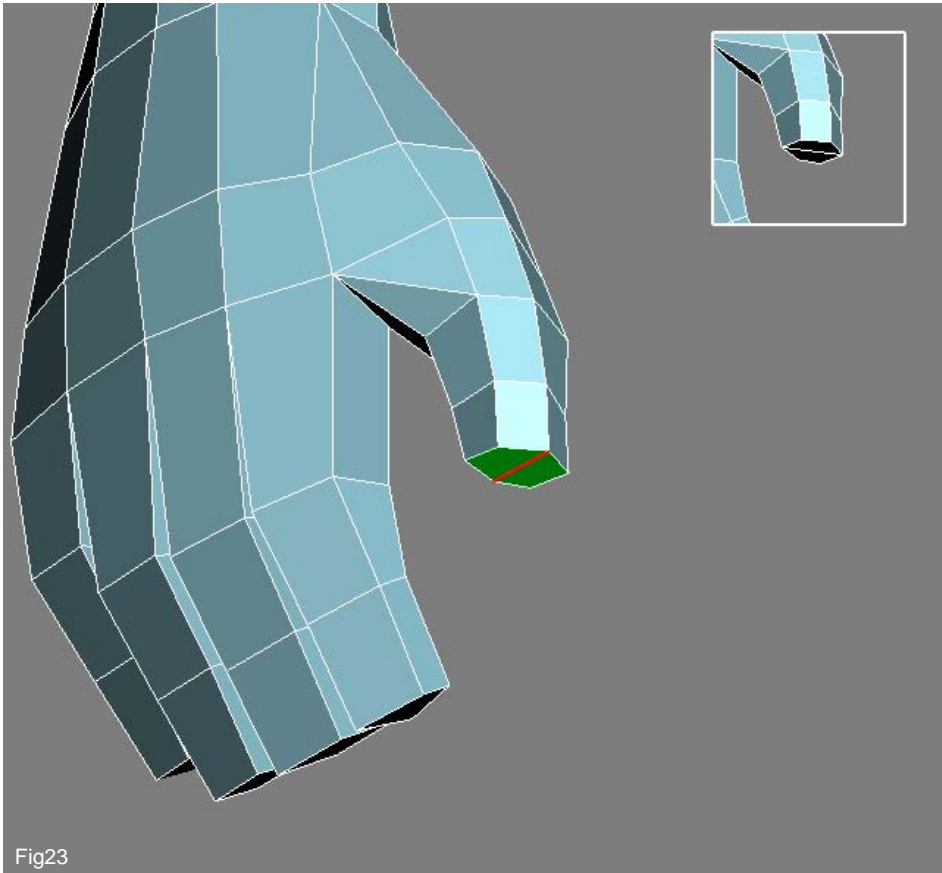

Fig23
23. You can then go on and extend the poly's to build the thumb. In Fig23 you will notice that I have re-orientated the poly's at the end to form a more even split compared to the original seen in the inset. This is not entirely necessary and may even inhibit a better shape when adding the curvature at the thumb tip but we are not adding much detail here so it should be ok.